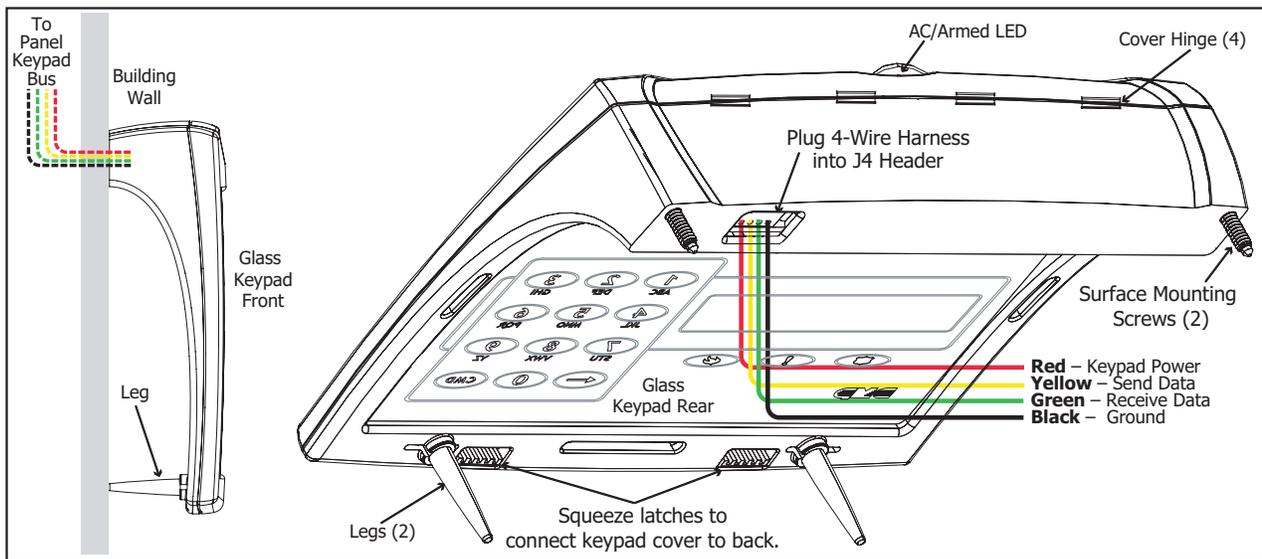

Figure 3: Keypad Side Mounting and Back Showing Wiring Harness Assignments
7. Gently plug the 4-wire harness connector onto the 4-pin header through the opening in the back of the keypad. See Figure 3.
2. Lower the cover and gently snap the two bottom latches and two internal side latches into place by squeezing the base and cover together to reduce the stress on the legs. (See Figure 3)
Figure 3 shows wiring harness mounting location and wiring assignments. Observe wire colors when connecting the Red, Yellow, Green, and Black wires to the keypad bus. When wiring directly to the panel terminals, connect Red to panel terminal 7, Yellow to terminal 8, Green to 9, and Black to panel terminal 10.